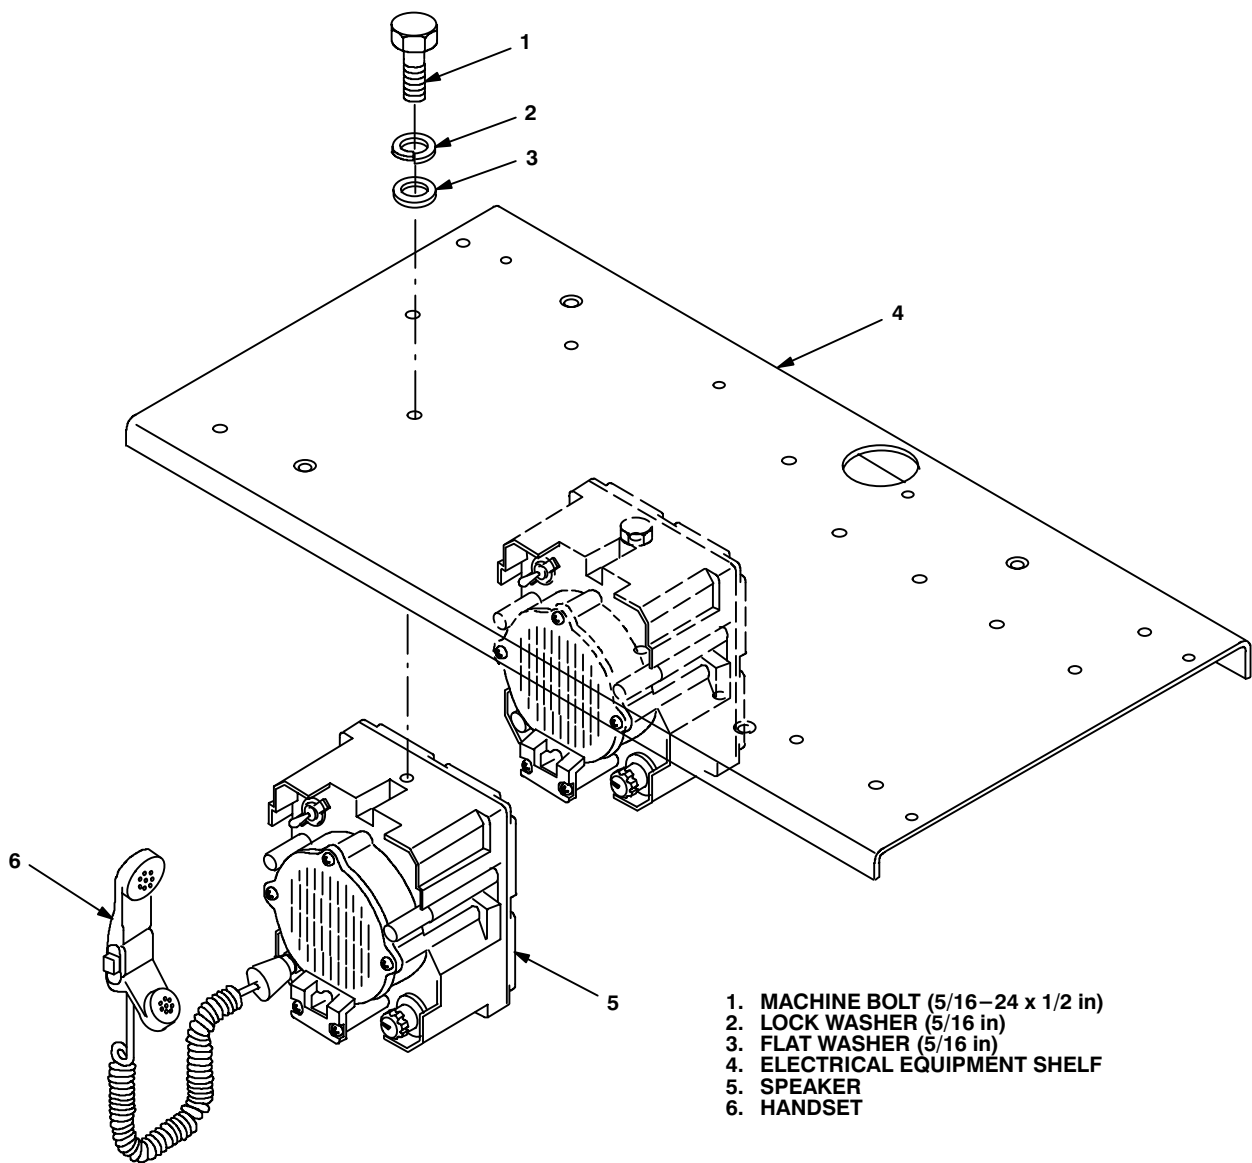

Figure 5-5. Speaker Installation: Electrical Equipment Shelf
a. Speaker (5).	Position top mounting hole under hole in electrical equipment shelf (4). See figure 5-5.
b. Machine bolt (1), lock washer (2) and flat washers (3).	Install and secure to speaker (5) and electrical equipment shelf (4).	Tools: 1/2 in socket.
c. Handset (6).	Connect and secure to speaker (5) connector J2.